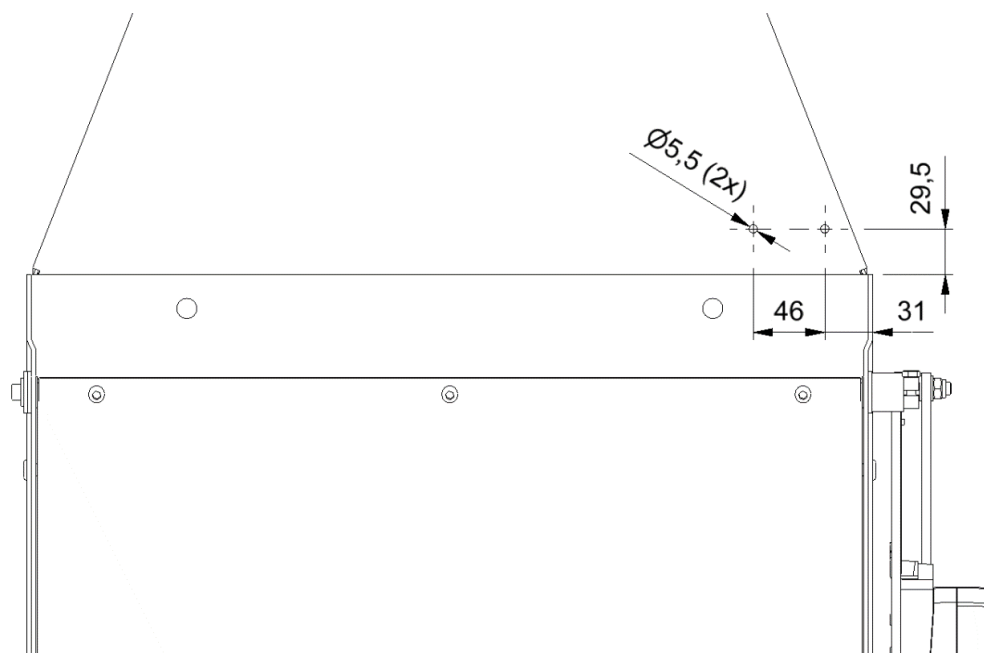

Figure 12 Measurements of holes for valve position sensor
- Installation (see Figure 12 and Figure 13);
- o Drill two holes with 5.5mm diameter in the Airmix housing (see Figure 12);
- o Close the valves / set the valves to horizontal, and keep in place by securing a pivot point (2);
- o Mount the attachment bracket (9) behind the rail of the actuator (1) with the M8x35 bolt (10), M8 washers (11) and M8 lock nut (12) (replace the M8x30 bolt);
- o Attach the lever (7) to the end of the spindle of the valve position sensor with the M5x20 bolt (3), M5 washer (4) and M5 lock nut (9). Make sure that the countersunk hole points towards the Airmix housing.
- o Mount the lever to the attachment bracket with the M5x25 countersunk bolt (8), M5 washers (4) and M5 lock nut (5);
- o Release the secured pivot point (2).